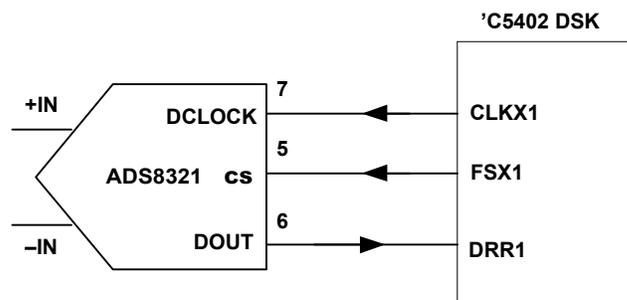

Figure 1. Hardware Interface Block Diagram
The hardware interface is virtually seamless between the 'C5402 DSK and the ADS8320. The C5402 DSP provides two on-chip McBSPs, the second McBSP was used for this report. The hardware connections are shown in Figure 1. The DCLOCK pin from the ADS8320 is connected to the CLKX pin of McBSP1 (CLKX1). The chip-select (CS) pin connects to the transmit frame-sync pin, FSX1, of McBSP1. When a McBSP is programmed to operated in SPI mode, FSX1 behaves like a slave-select pin. Finally, the DOUT pin is connected to the data receive pin, DRR1, of McBSP1.